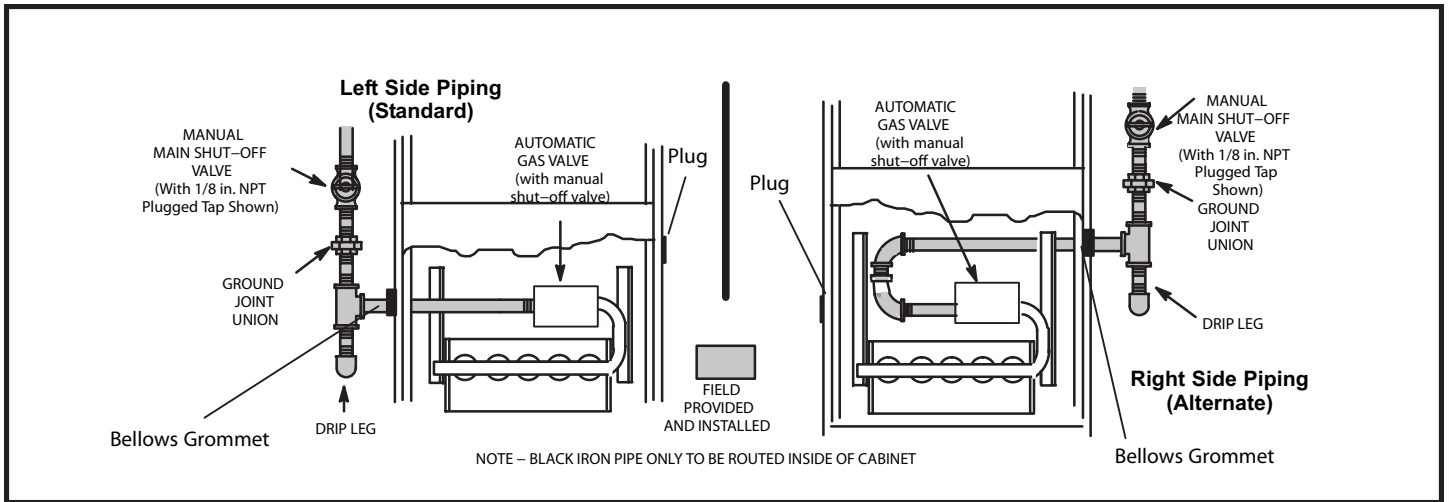

Figure 43
1. Gas piping may be routed into the unit through either the left or right hand side. Supply piping enters into the gas valve from the side of the valve as shown in Figure 43. Move bellows grommet to side of the cabinet which the gas line enters. Ensure opposite gas line entrance is plugged with supplied plug.
3. Gas piping must not run in or through air ducts, clothes chutes, chimneys or gas vents, dumb waiters or elevator shafts. Center gas line through piping hole. Gas line should not touch side of unit. See Figures 43.